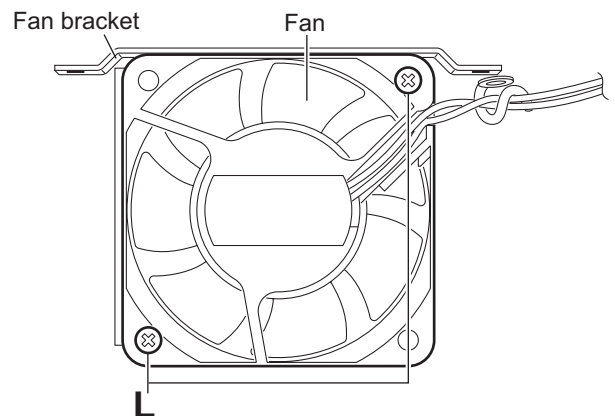

Fig.13
- (3) Remove the two screws L attaching the fan to the fan bracket. (See Fig.13.)